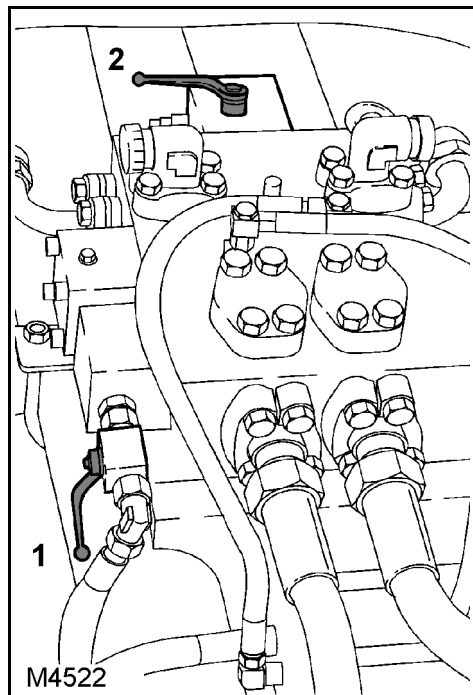
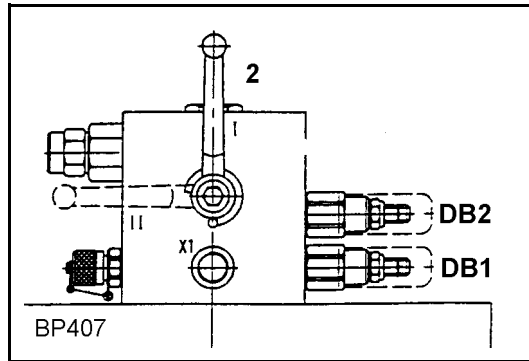

Fig. 228 Ball valves on pump kit control block
Fig. 229 In detail: Ball valve 2
3. The hydraulic oil becomes very hot because a large portion of the oil constantly flows through the pressure relief valve (PR2; 50 bar reduction (**Fig. 228**)).
2. Close ball valve (1) (**Fig. 228**) (position "Pressure control").
3. Move ball valve (2) (**Fig. 228**) / (**Fig. 229**) into position (II) "Pressure control".
6. Leave the ball valve (2) (**Fig. 228**) in position (II) "Pressure control".
7. Reopen the ball valve (1).